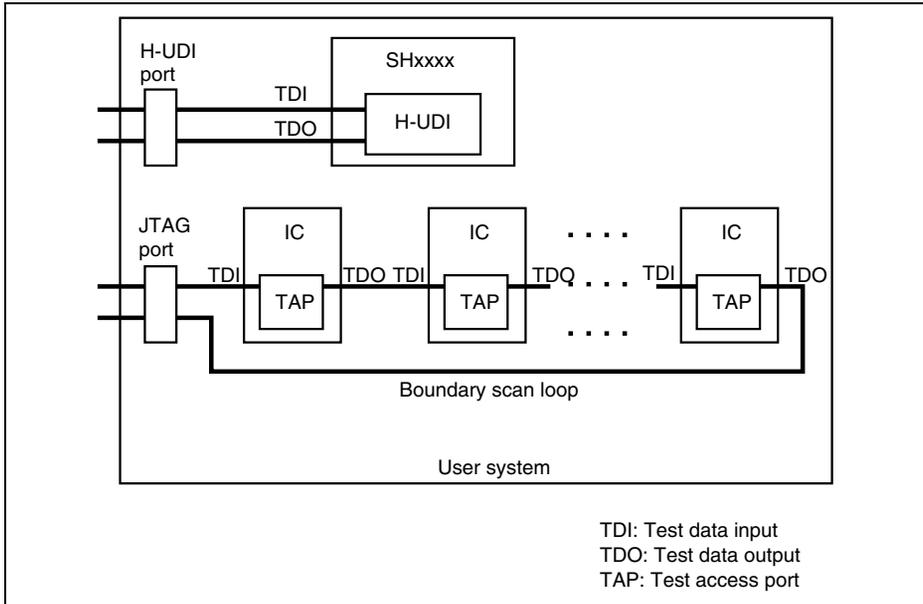

Figure 3.5 User System Example
5. When developing user systems, do not connect the TDI and TDO signals of the device to the boundary scan loop, or separate them by using a switch (figure 3.5).